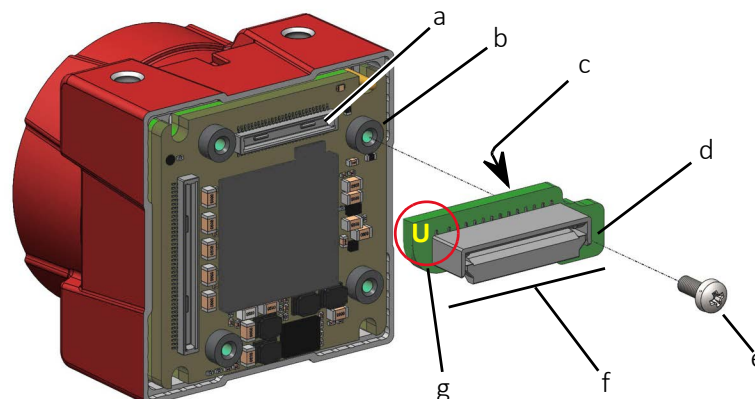

Figure 29: Alvium USB Flex camera, Interface Board, and screw
- Connect Alvium USB Flex Add-on Boards only as shown in Figure 29.
2. Plug the DF40C-50DS-0.4V connector (c) of the Alvium USB Flex Add-on Board to the Hirose DF40C-50DP-0.4V connector (a) of the camera as shown in Figure 29.